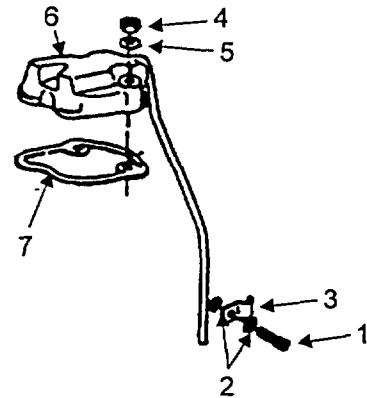

Figure 4-1. Removing Valve Cover
b. Loosen the screw (1) securing the valve cover vent line clamp (3) with an open end wrench (see figure 4-1).
c. Remove valve cover retaining nuts (4), and washers (5) lift off valve cover (6) and gasket (7).
- a. Position a new gasket (Item 7, figure 4-1) on the mating surface of the cylinder head.
- b. Position the valve cover (6) on the cylinder head and secure with washers (5) hex nuts (4) Torque to 35 Nm (25 lb.-ft) then additional 1/8 turn with T-handle & socket.
- c. With screw (1) and washers (2) reinstall the vent line clamp (3) and tighten with an open-end wrench